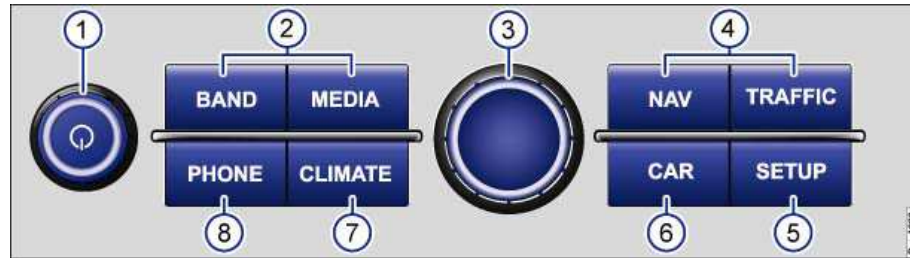

Fig. 131 Overview of rotary/push knobs and the Infotainment buttons.
To switch the unit on or off manually, briefly press the rotary/push knob ⇒ fig. 131 \(1\).
Increase volume.	Turn the volume control ⇒ fig. 131 (1) clockwise or press the button on the multi-function steering wheel ⇒ page 5 ⇒ page Error! Bookmark not defined..